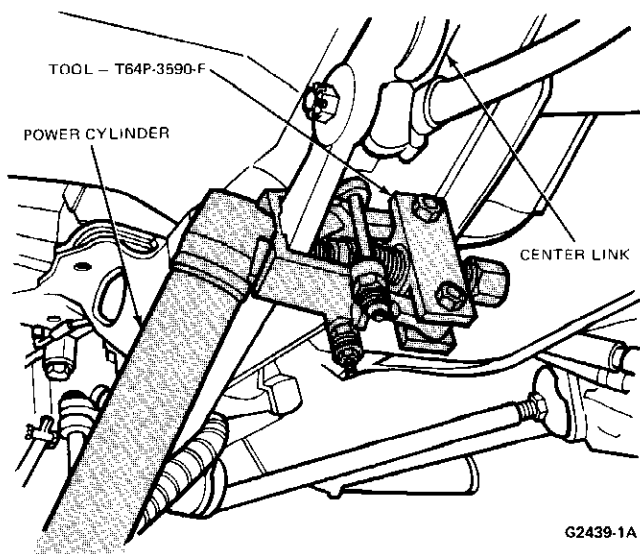

FIG. 6 Disconnecting Power Cylinder Stud
4. Disconnect the power cylinder stud from the centerlink. It is necessary to use the steering arm remover tool, No. T64P-3590-F (Fig. 6). **Use of any other tool will result in damage to the power cylinder.**